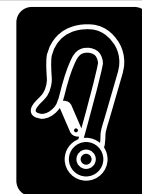

Fig.7.3
2. The tie-down points (2 in the front, 2 in the back) are indicated by the tie-down symbol (Fig. 7.3). Fit the front straps first, then the rear. Tension the straps to secure the wheelchair. The wheelchair may not be secured onto any accessories (armrests, anti-tip brackets, etc.).